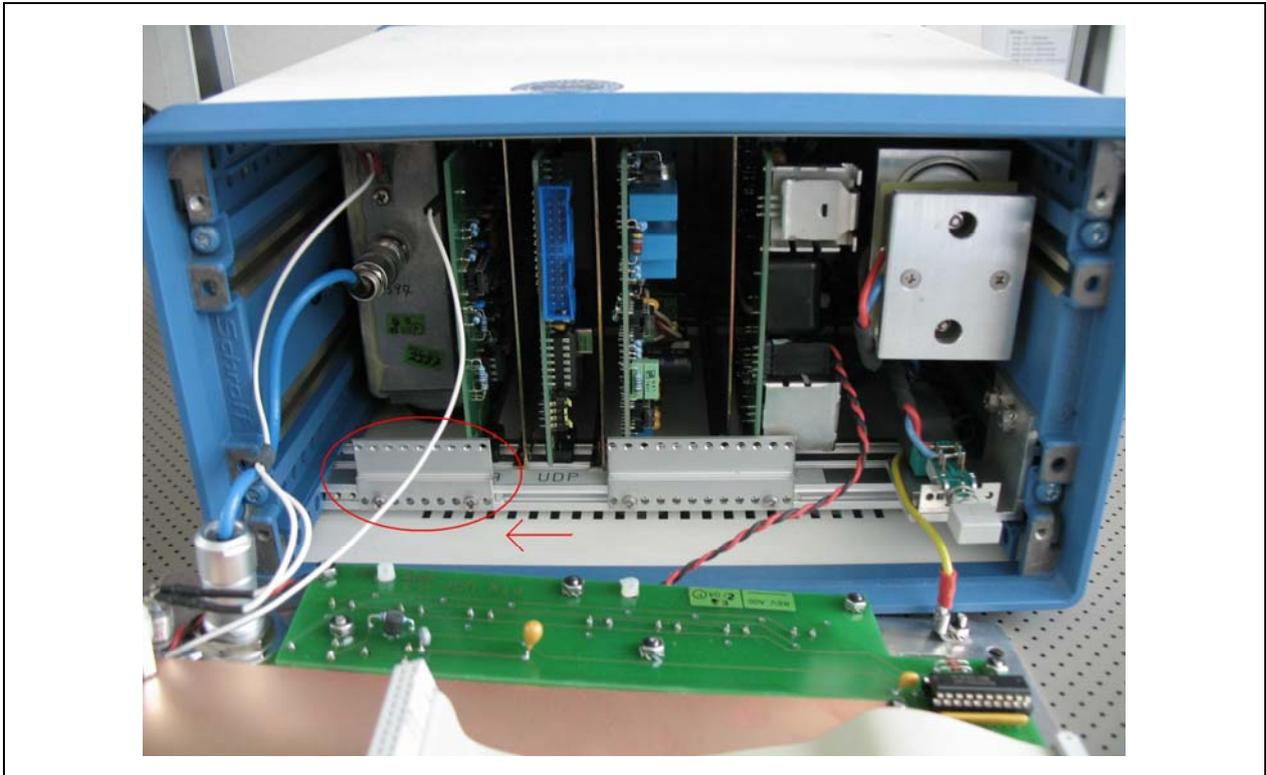

Figure 5: Screws loosened, metal plate moved to the left side
- f) After loosening the screws, slide the metal plate to the left (see Figure 5).